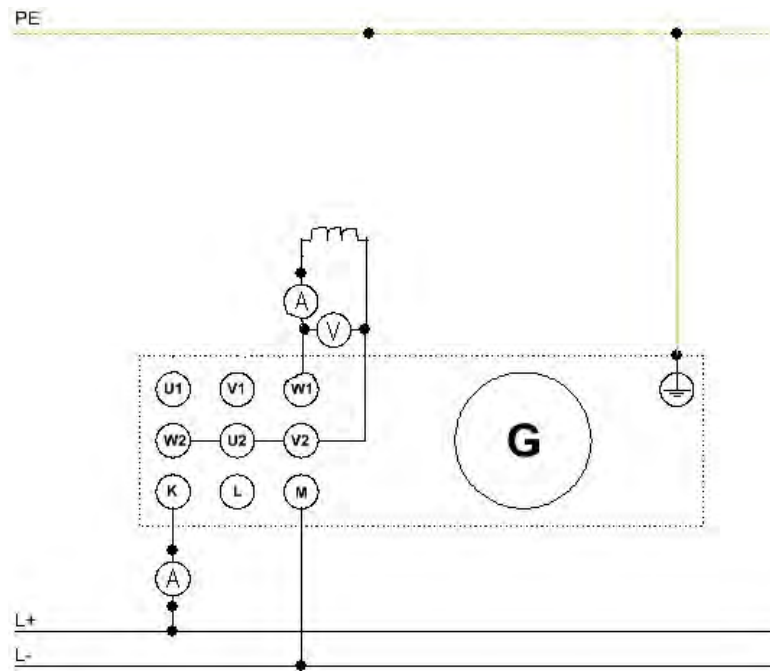

Figure 8:
21. Modify the circuit as indicated in Figure 8.